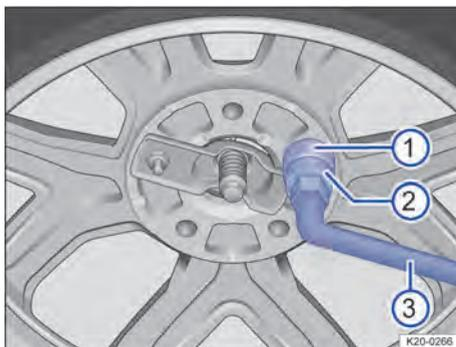

Fig. 206 Removing the anti-theft device.
1. Remove the anti-theft device adapter → Fig. 206 ② and the wheel wrench → Fig. 206 ③ from the tool box.
2. Remove the cover cap from security nut → Fig. 206 ①.
3. Insert the anti-theft device adapter ② and the wheel key ③ into the safety nut ①.
4. Remove the safety nut ① with the wheel wrench ③ by turning it completely counter-clockwise.